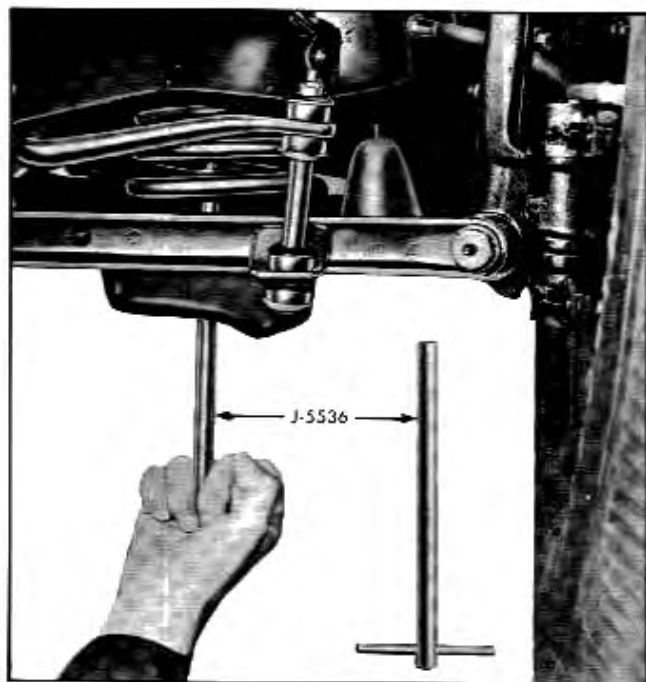

Fig. 3-14 Compressing Shock Absorber With Tool J-5536
3. Remove grommet retainer and grommet. Compress shock absorber as far as possible by pushing the lower section up. Tool J-5536 (Fig. 3-14) can be used for compressing shock absorber.